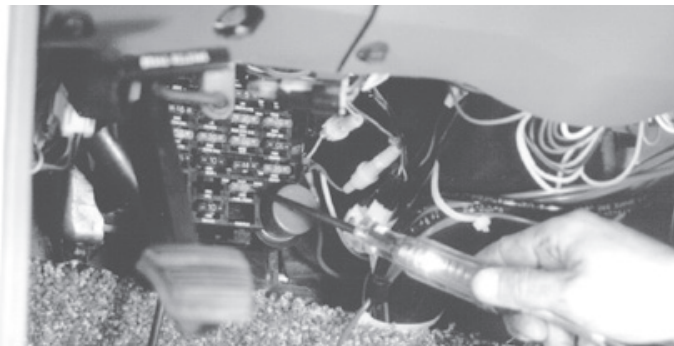

fig. 27
1. Use a test light to determine which open terminal (accessory, etc.) works only when the key is in the "on" or accessory position (Fig. 27). The terminal should have an amperage rating equal to or higher than the 25 amp inline fuse.